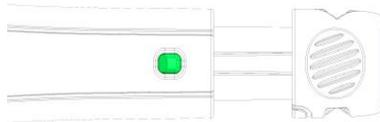

Figure 7
4. Replace the OVD syringe with the Injector (Figure 7).